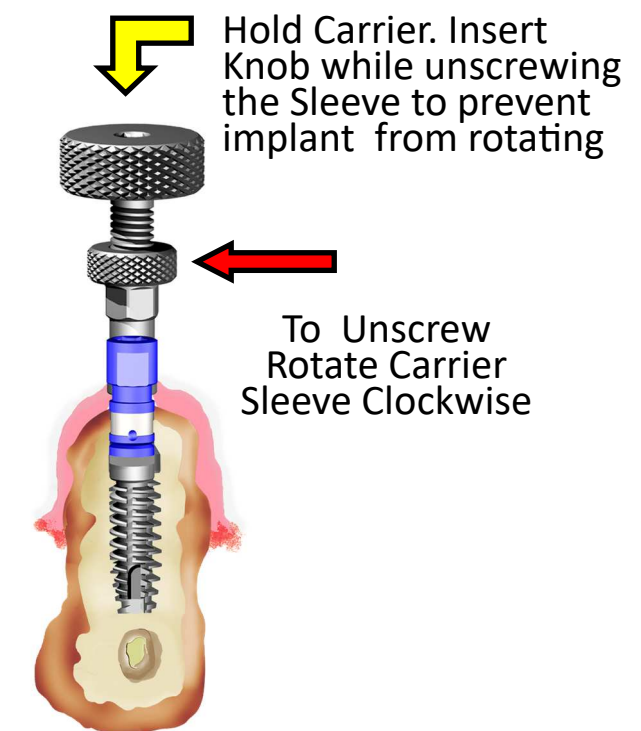

Fig.5
- Once the Implant is in position disengage the Carrier by unthreading the Carrier Sleeve Clockwise Fig.5